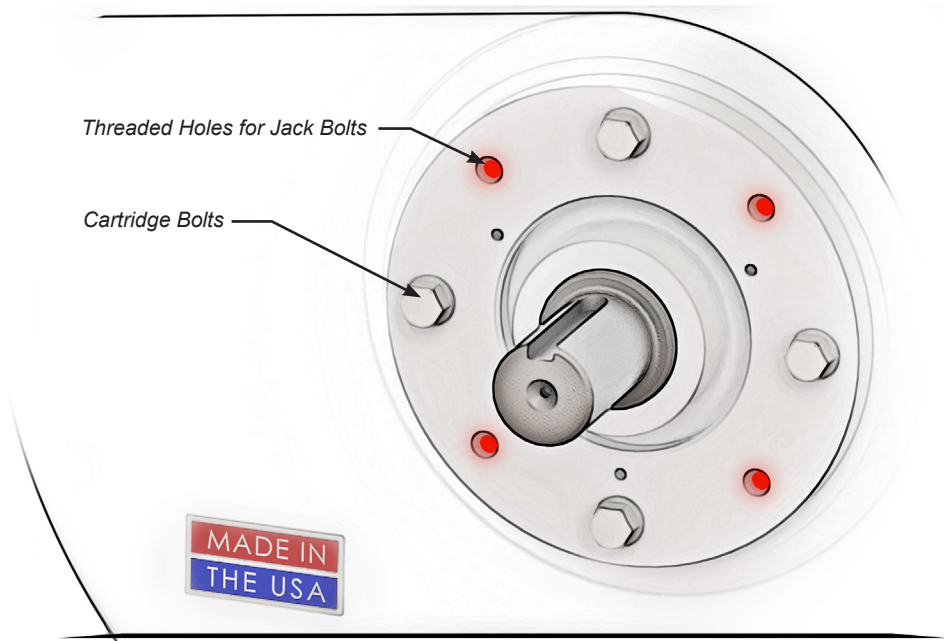

FIGURE 10
10. Remove cartridge bolts (Figure 10)
12. Alternately tighten opposing jack bolts (Figure 10) 1/4 turn at a time until cartridge can be pulled from endplate. Properly dispose of cartridge.